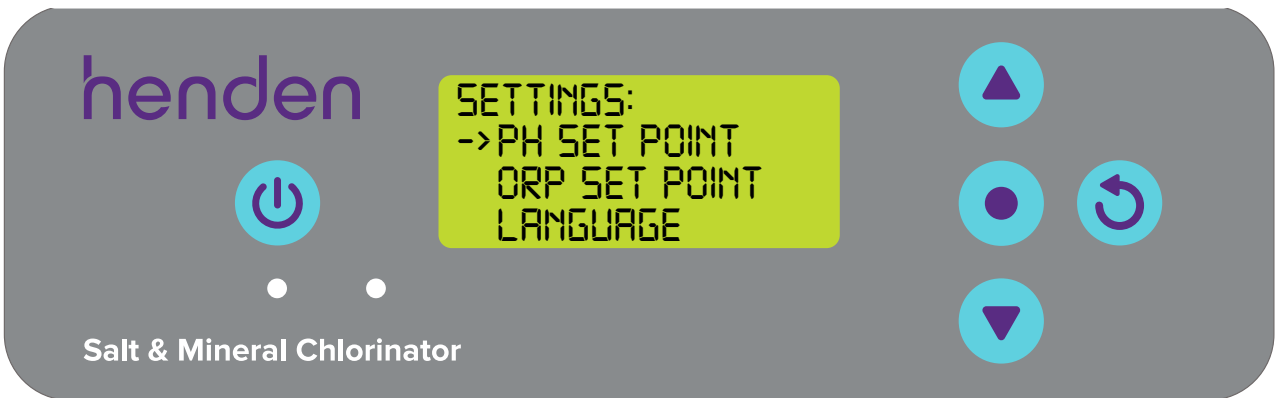

Figure 8.48
- Press the   **menu up/down** button to scroll down to ORP set point (Figure 8.48)